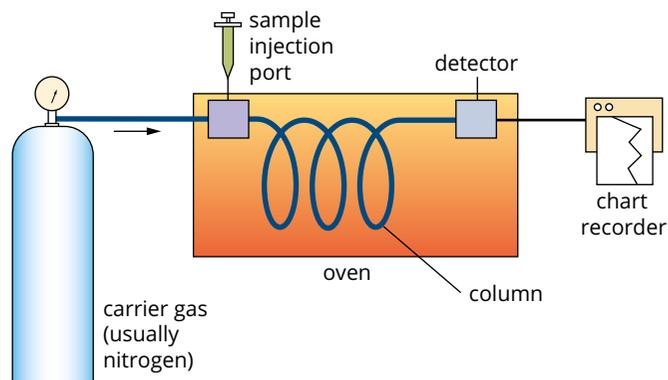

FIGURE 13.2.1 A gas chromatograph
There are two types of GC: **gas-liquid chromatography (GLC)** and **gas-solid chromatography (GSC)**. Both GC techniques use chromatography principles described in Module 13.1. A mobile phase moves through a stationary phase and separated components are identified as they leave the column. A generalised diagram of the equipment used in GC is shown in Figure 13.2.1.
- The components of the sample repeatedly adsorb onto and desorb from the stationary phase. The least soluble components are swept out first by the gas into the detector (Figure 13.2.1). The detector is often a mass spectrometer. In Chapter 5, you learnt how mass spectrometry is used to analyse organic compounds.